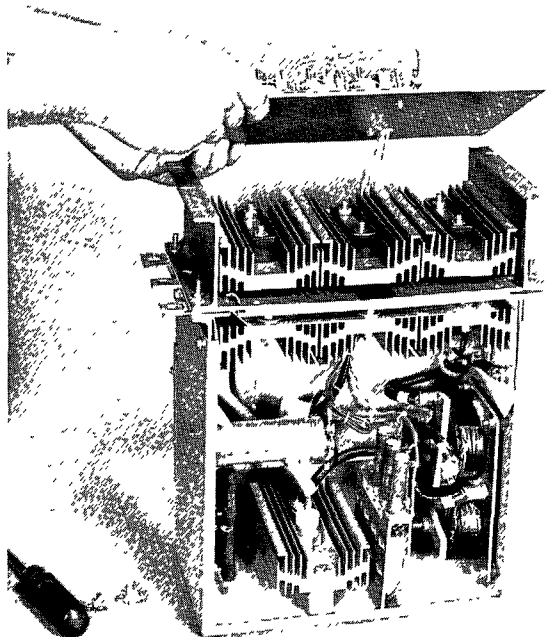

FIGURE 14
5. Fold back the cover, thereby, exposing the Press-Pak SCR heatsink clamps. The remaining wire harnesses should support the front insulation cover while removing and replacing the defective Press-Pak cell. See Fig. 14.